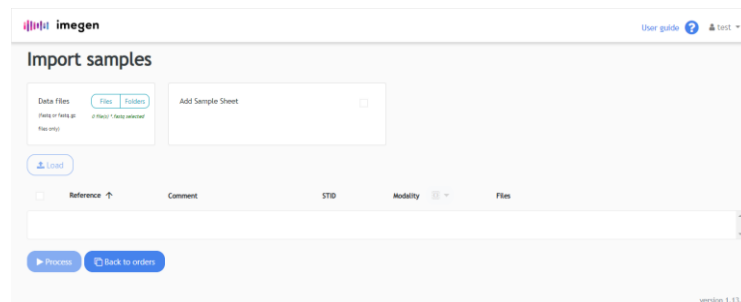

Figure 25. Screen for importing the fastq files and the sample sheet and commence the analysis request.
1. Select the "Import Samples" on the main screen (*Orders* tab) to begin the analysis of the sequenced samples. This will take you to the file import screen (Figure 25). On this screen, the two FastQ files associated with each sample must be imported. Optionally, the *SampleSheet* file could be used as well; this file allows simultaneously importing all files from the same sequencing run.